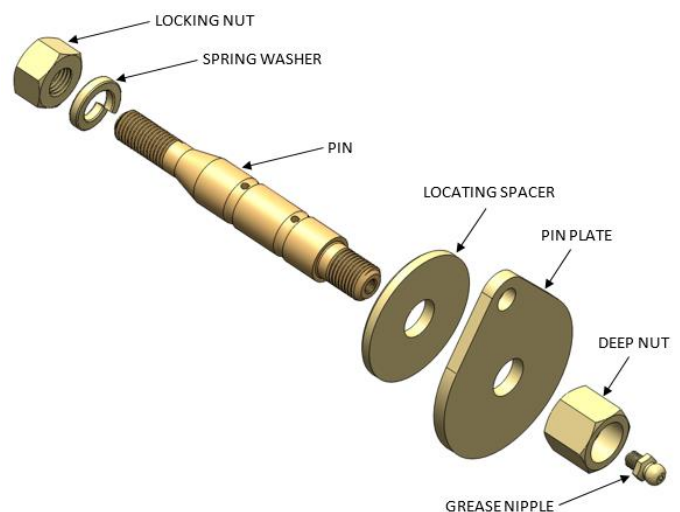

Figure 1: Diagram of fixed pin
- Screw the grease nipples into ends of the fixed pins and firmly tighten (see figure 1). **DO NOT** over tighten grease nipple as this will damage the thread;
- Place the locating spacer (chamfer faces vehicle) and pin plate on the pin as per figure 1;
- Screw and lightly tighten the deep nut on the pin (figure 1);